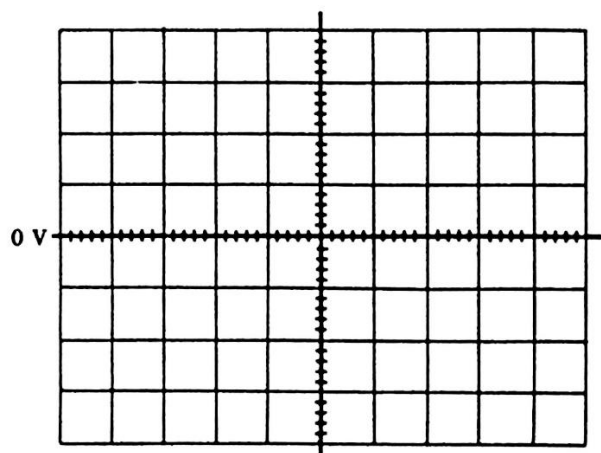

Figure 3.4a
10. Sketch $v_I(t)$ and $v_O(t)$ on Fig. 3.4a.